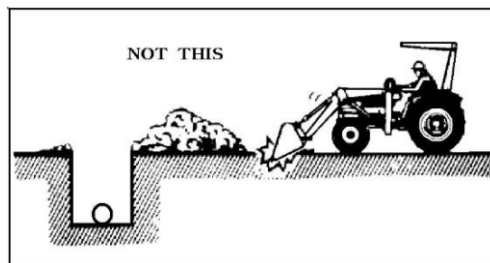

Fig 4.19. In appropriate approachability to a pile.
- Approach the pile with a flat bucket shown in figure 4.19.